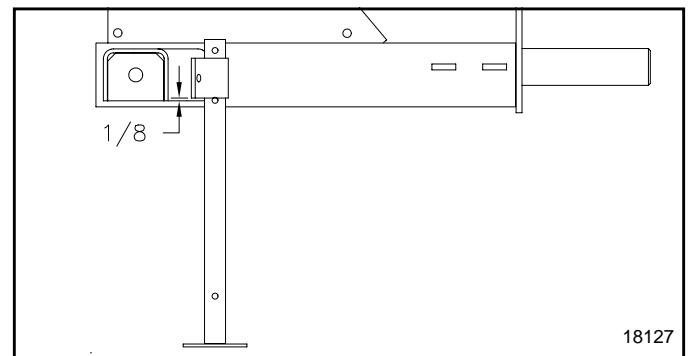
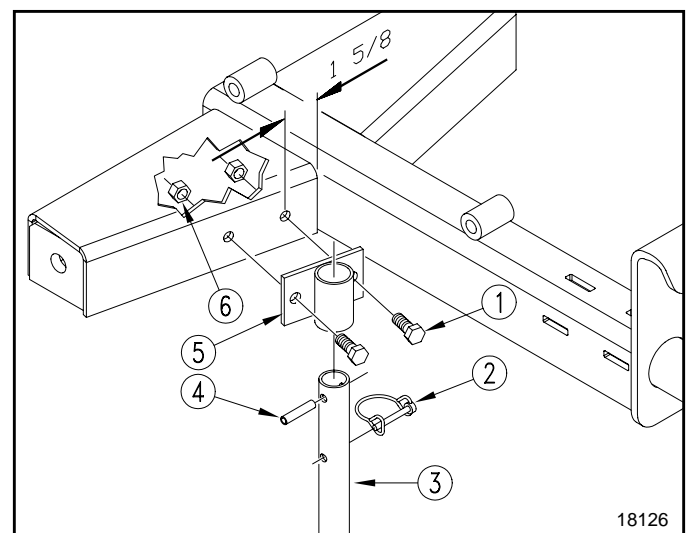

Figure 1
Figure 2
2. Clamp the stand bracket (#5) to the frame using the dimensions shown in Figure 1 and Figure 2.
4. Secure the bracket with the two bolts (#1) and lock nuts (#6) as shown in Figure 2.